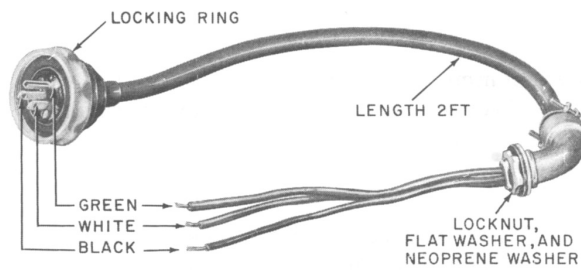

Fig. 3—KS-19580, List 30 Power Cord Assembly
- KS-19580, List 30 power cord assembly (Fig. 3)—Used to bring power into the top of an outdoor booth.